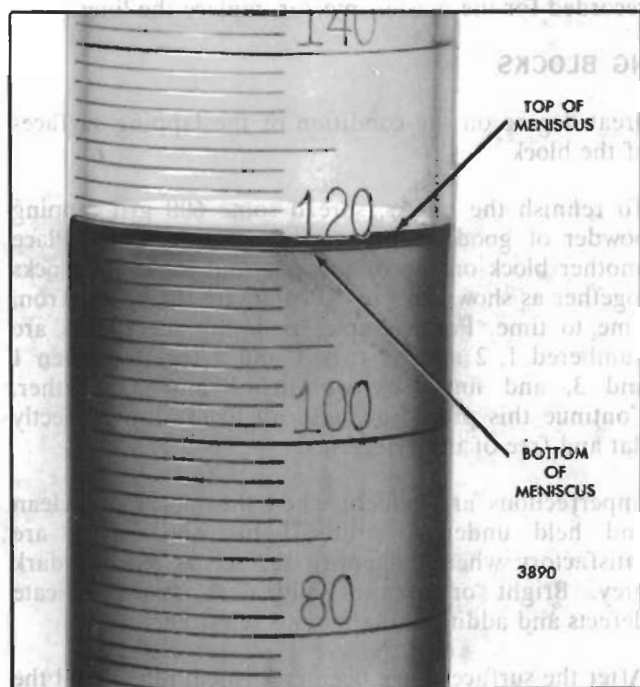

Fig. 1 - Check Fuel Output
1. **Operator Errors:** If the column of liquid in the vial is read at the top of the meniscus instead of at the bottom, a variation of 1 or 2 points will result. Refer to Fig. 1.